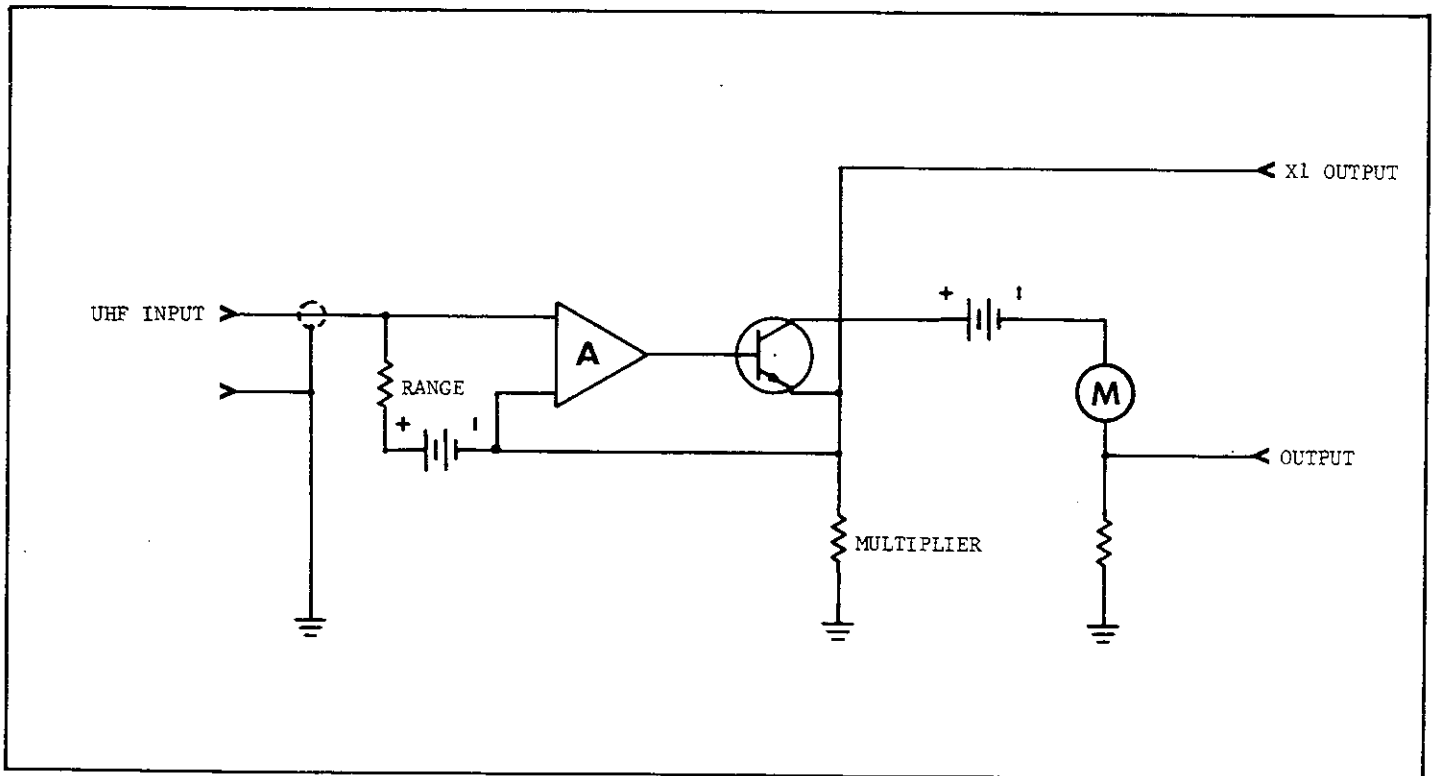

FIGURE 12. Ohmmeter Configuration, NORMAL Mode.
a. Normal Method. In the normal method of resistance measurements (FEEDBACK Switch in NORMAL position), the Model 610C uses a constant-current, voltage-drop circuit. Refer to Figure 12.  $R_x$  is the unknown resistor. A voltage source, E, applies a potential across  $R_x$ . The source is obtained from the +9 volt supply through the resistor divider network, R136 through R138. E varies from 0.1 to 1.3 volts, depending upon the OHMS range used. The voltage source is connected between floating ground and the input gate of Q101 through  $R_s$ , the range resistor.  $R_s$  is one of the resistors, R102 through R112. I is equal to  $E/R_s$ , regardless of the value of  $R_x$ , as long as the voltage drop across  $R_x$  does not exceed the Multiplier Switch setting. This circuit provides a true source regardless of the input. The Model 610C can then measure the voltage drop across  $R_x$  and indicate the resistance value on its calibrated meter.